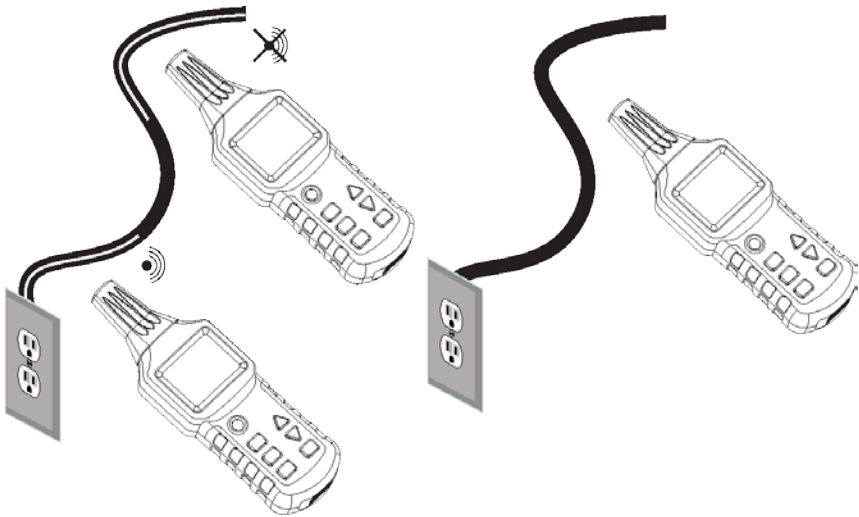

Fig. 25
- The measurement must be made as shown in Fig. 25.